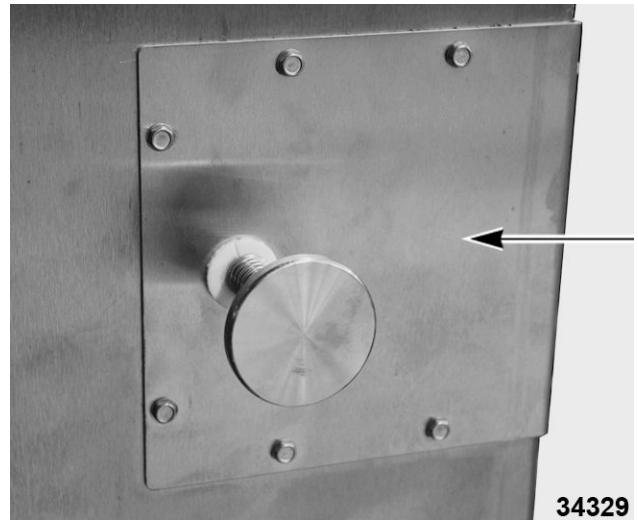

Fig. 72
- A. Remove inner door handle cover (Fig. 72).